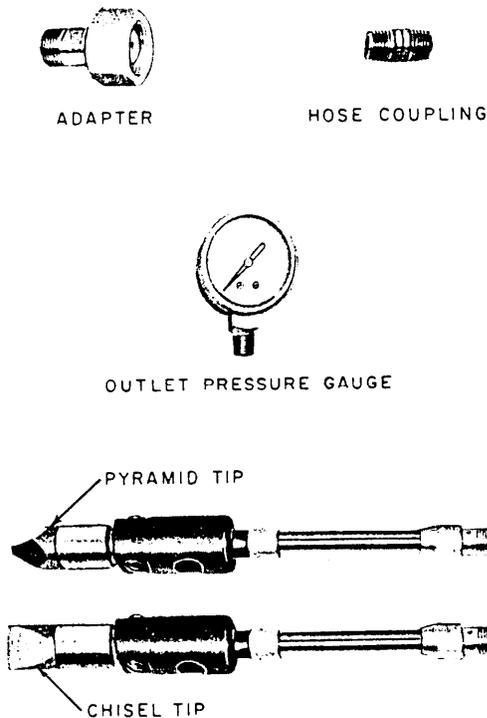

Fig. 3 - Optional Parts for F and G Acetylene Torches
2.06 The following optional parts for the F and G acetylene torches are illustrated in Fig. 3